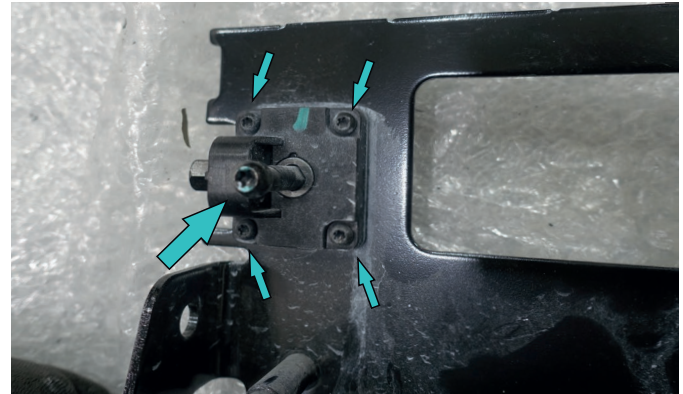

Fig.53
50. Undo the factory adjusting screw, then remove the adjusting mechanism. (fig.53).